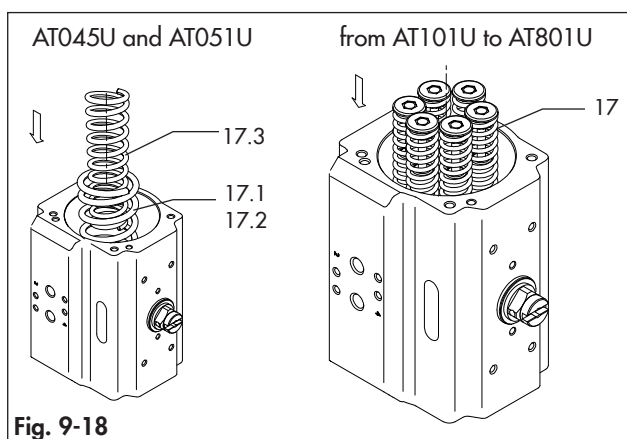
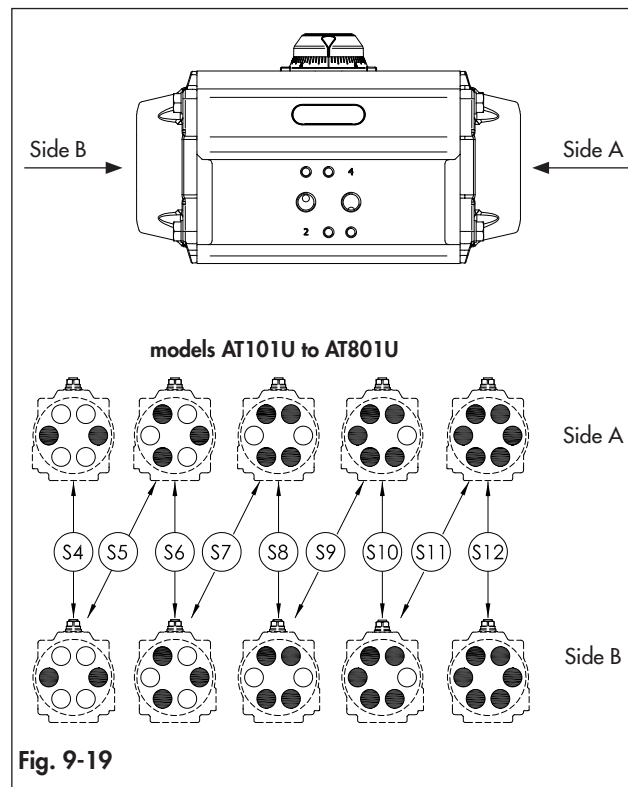

Fig. 9-18
Fig. 9-19
- Lubricate again the internal surface of the body (50).
- In case of spring return actuator, place the correct quantity of spring cartridges in the correct position as indicated in Table 9-4, Table 9-5, Fig. 9-18 and Fig. 9-19 depending on the actuator model.